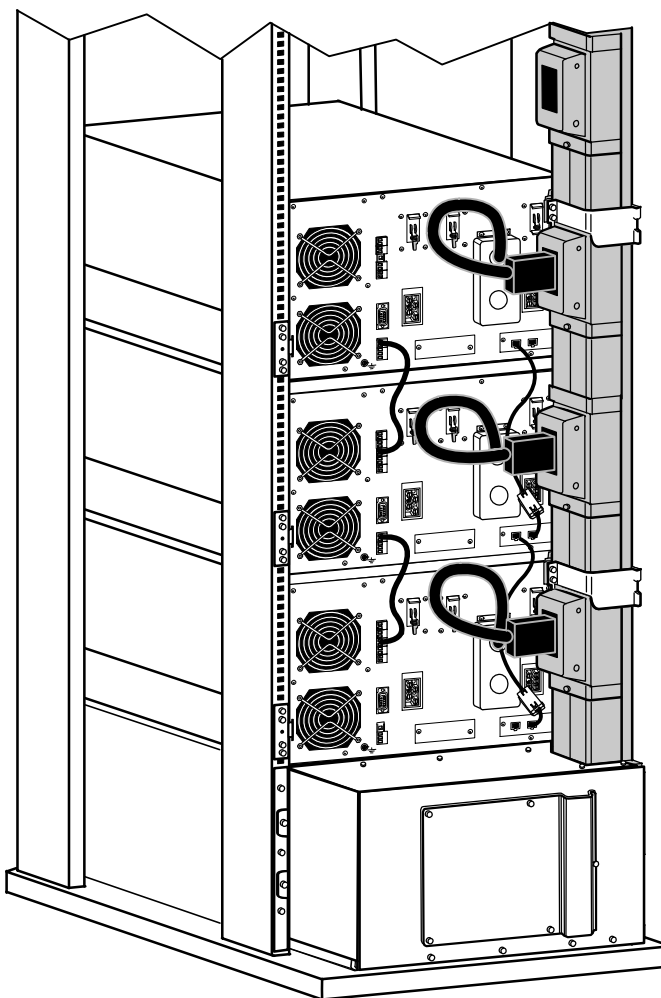

Figure 37. Connecting UPSs to the BladeUPS Bar (Bottom Entry Shown)
19. Connect the parallel input cord from each paralleled UPS to the BladeUPS Bar in the rack as shown in Figure 37.
- 13.** Connect the parallel input cord from the UPS to the BladeUPS Bar in the rack as shown in Figure 37 on page 49.